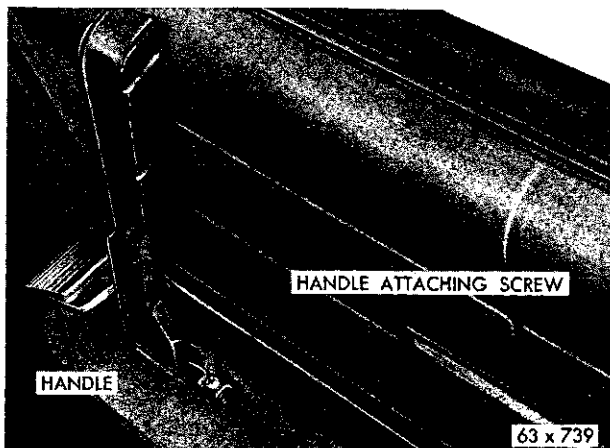

Fig. 49—Inside Door Handle Attachment
(1) On the Chrysler Newport and 300 models with the handles behind the arm rest, remove the arm rest to reach the remote control handle attaching screw.
(2) On Imperials or Chrysler New Yorker models use a long screw driver to reach through the handle slot and loosen the handle clamping screw which is directly in the rear of the handle. (Fig. 49.)
(3) After loosening, the handle may be pulled off the shaft as the trim panel is removed.
(4) The rear door locking control knob is attached to its shaft on all models by means of a small screw through the center of the hub into the